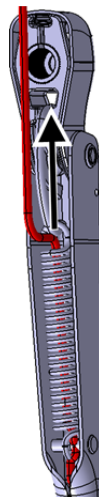

FIGURE 6
6. Remove and save the rubber tube from each wiper arm (FIGURE 6). The rubber tubes must be reinstalled on the new wiper arms.